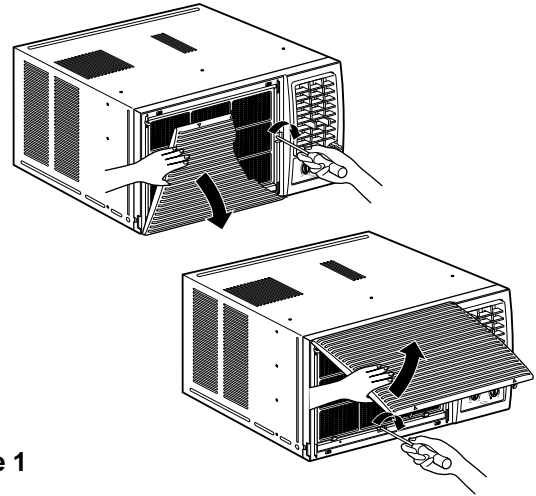

Figure 1
5. Re-install the component by referring to the removal procedure, above.(See Figure 1)